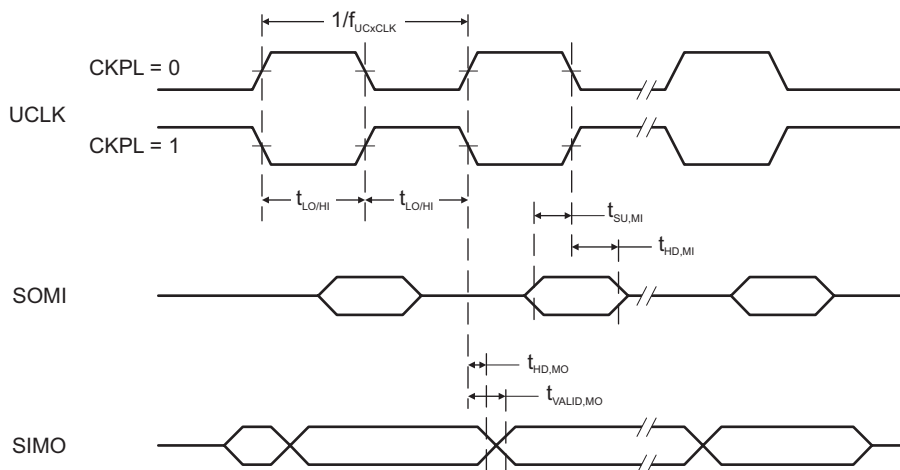
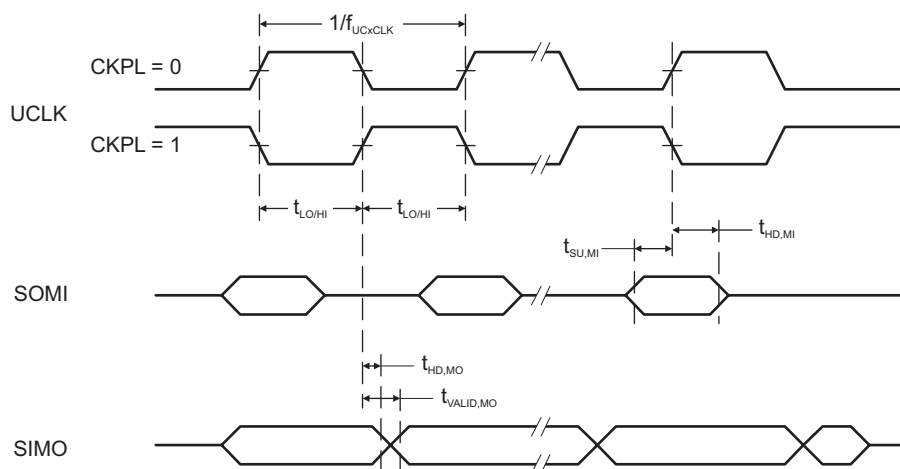

Figure 5-11. SPI Master Mode, CKPH = 0
Figure 5-12. SPI Master Mode, CKPH = 1
(see Figure 5-11 and Figure 5-12)
(2) Specifies the time to drive the next valid data to the SIMO output after the output changing UCLK clock edge. See the timing diagrams in Figure 5-11 and Figure 5-12.
(3) Specifies how long data on the SIMO output is valid after the output changing UCLK clock edge. Negative values indicate that the data on the SIMO output can become invalid before the output changing clock edge observed on UCLK. See the timing diagrams in Figure 5-11 and Figure 5-12.